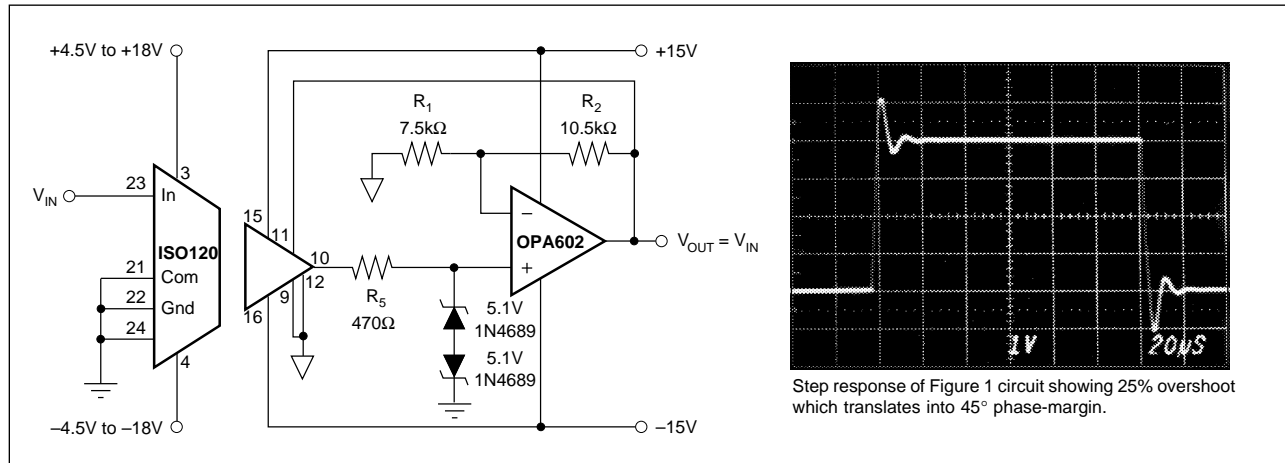
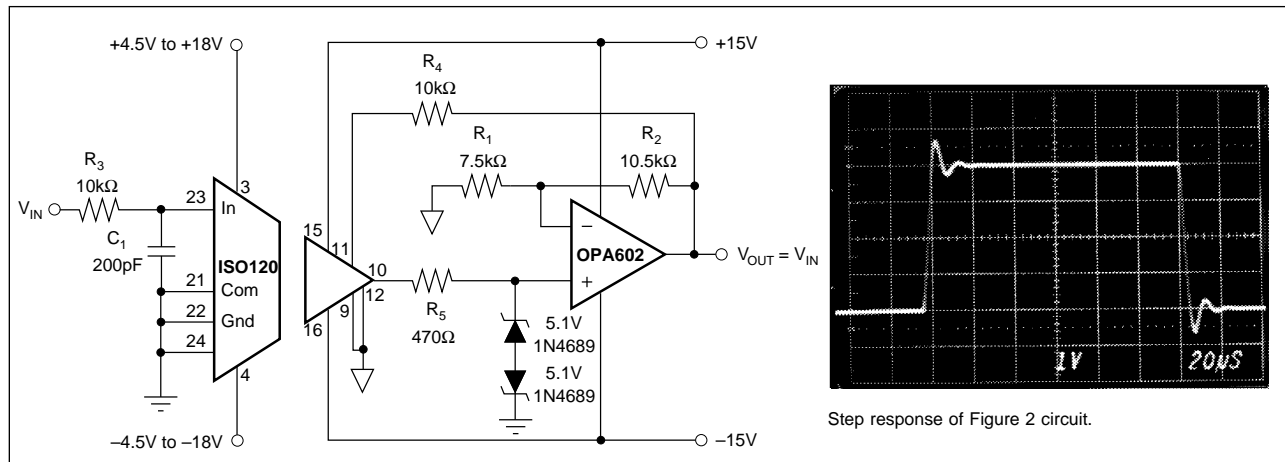

FIGURE 1. ISO120 with  $f_{-3dB}$  Bandwidth Boosted to Approximately 150kHz.
FIGURE 2. ISO120 with Flat Magnitude Response and  $f_{-3dB}$  Bandwidth Boosted to More Than 100kHz.
Adding gain in the feedback of the ISO120/121 increases bandwidth and decreases phase margin—see Figure 4. The ISO120 was designed with approximately 70° phase margin in the output stage for maximally flat magnitude response and a  $f_{-3dB}$  bandwidth of approximately 50kHz. With a gain of 2.4V/V in the feedback as shown in Figure 1, phase margin is decreased to an acceptable 45°. Due to gain peaking, the actual  $f_{-3dB}$  bandwidth is increased to almost 150kHz. With the addition of an input filter as shown in Figure 2, flat magnitude response with a bandwidth of
To verify the phase margin, analyze the step response of the Figure 1 circuit (shown in the Scope Photo 1). The 25% overshoot translates to a damping factor of 0.4 and 45° phase margin.
The addition of an input filter to compensate for the gain peaking, as shown in Figure 2, gives a flat magnitude response of more than 100kHz. In addition to the gain of
2.4V/V amplifier in the feedback, a simple 80kHz input filter formed by  $C_1$  and  $R_3$  is inserted at the input. The 10k $\Omega$  input resistor,  $R_3$ , decreases the ISO120 gain by about 5%. A matching 10k $\Omega$  resistor in the feedback,  $R_4$ , restores gain accuracy. The step response for the Figure 2 circuit is shown in the scope photo.
The Gain vs Frequency Plot, Figure 3, compares the response of the Figure 1 and Figure 2 circuits, to the standard ISO120. The top plot is the Figure 1 circuit showing about +3dB magnitude peaking and almost 150kHz  $f_{-3dB}$  bandwidth. The center plot is the Figure 2 circuit with the 80kHz input filter. The magnitude response is flat with an  $f_{-3dB}$  bandwidth greater than 100kHz. The bottom plot shows the standard ISO120 circuit with an  $f_{-3dB}$  bandwidth of about 50kHz.